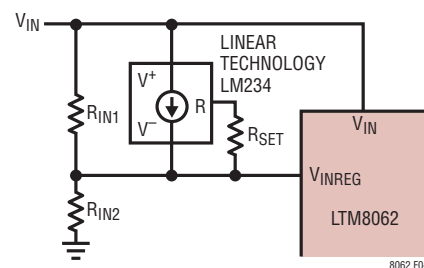

Figure 4. MPPT Temperature Compensation Network
In the circuit shown in Figure 4,
As the temperature coefficient for  $V_{MP}$  is similar to that of  $V_{OC}$ , the specified temperature coefficient for  $V_{OC}$  (TC) of  $-78\text{mV}/^\circ\text{C}$  and the specified peak power voltage ( $V_{MP}(25^\circ\text{C})$ ) of 17.6V can be inserted into the equations to calculate the appropriate resistor values for the temperature compensation network in Figure 4. With  $R_{SET}$  equal to 1k, then: